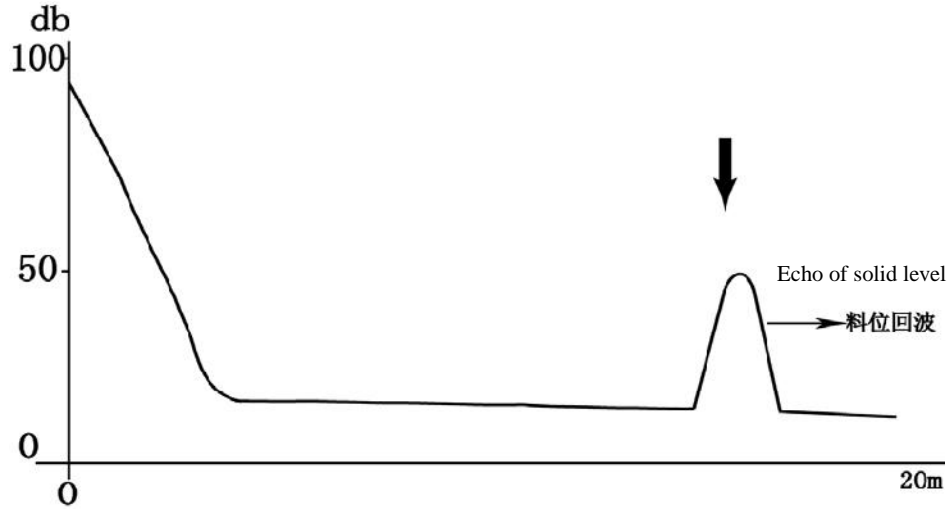

Figure 1 Normal echo of solid level
- Shown in figure 1, a wave guide pipe for DN50 of flange. Take it for example.